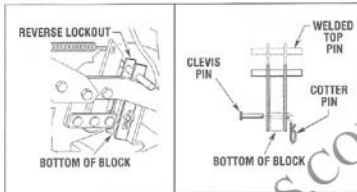

Figure 4-4: Install Reverse Lockout.
A. Place Reverse Lockout on belt adjustment block as shown in Figure 4-4.